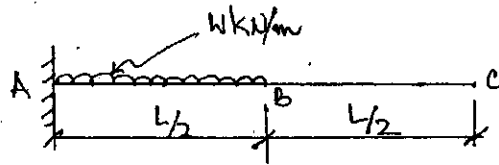

Fig.Q4(a)
- 4 a. Determine the slope and deflection at the free end of a cantilever shown in Fig.Q4(a) by the moment area method.